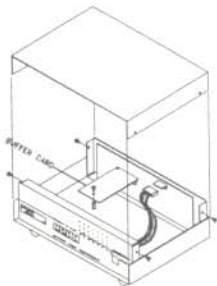

Figure B-1
- 3) Locate the 14x2 gold pin by-pass connector on the Auto Switch PCB and remove the by-pass connector. Check Figure B-1 & B-2 for locations.